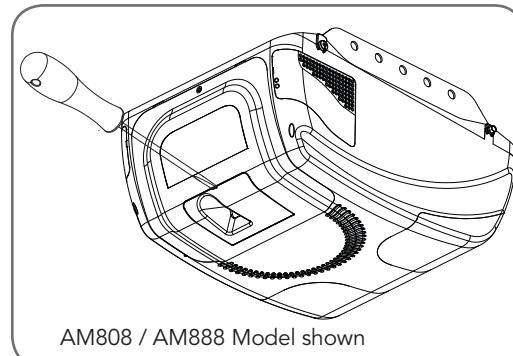

Fig.6.4.1
- Remove the button ver (Fig. 6.4.1).
Remove the controls cover (Fig. 6.4.1) to access the controls panel and place it back when finish programming.